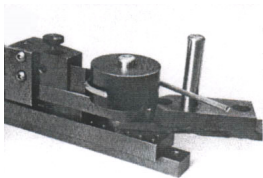

Figure 4
8. If you are working with heavy gauge wire, it may be necessary to use the Sharp Angle Plate (#15) to prevent slipping. If this becomes necessary, it should be put on its side with the angle portion facing up with one side of the angle facing the vise and the other the shaft being used, as shown in Figure 4.